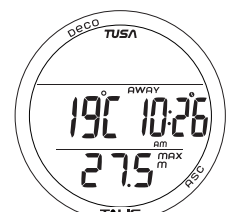

Fig. 58 - NO DECO ALT 1
**NORM No Deco ALT 1**, information includes (Fig. 58):